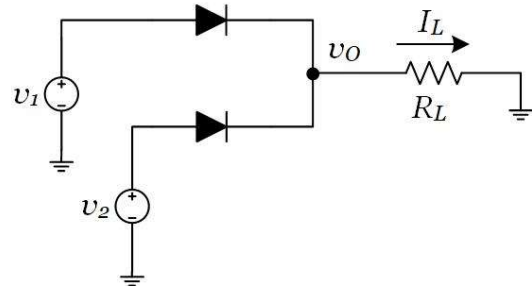

Figure 2.2. Full-wave rectifier with dual supply.
- For the circuit shown in Figure 2.2, calculate the value of capacitance needed to limit the ripple to 1Vpp. Assume $R = 10\text{k}\Omega$ and the diode forward drop is 0.7V. Each source shown has an amplitude of 5V and a frequency of 1kHz.
6. Construct the shown in circuit to create the circuit of Figure 2.2 with $R_L = 10\text{k}\Omega$.